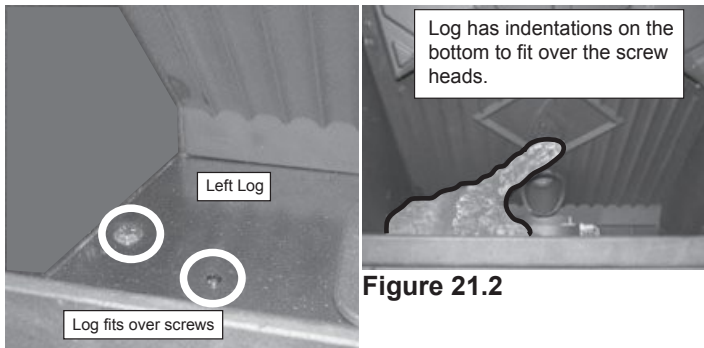

Figure 21.1
1. Place the left log as shown. There are 2 indentations in the bottom of the log to fit over the screw heads in the firebox. **Figures 21.1 and 21.2.**